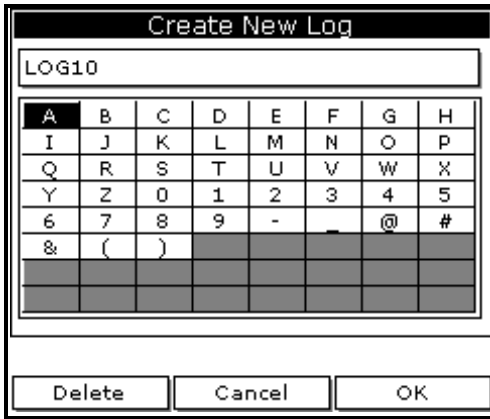

Figure 42: Name Entry Window for a New Log
4. Use the arrow key to scroll to **Clone Selected Log** and press [ENTER]. The screen now appears similar to Figure 42 on page 100.